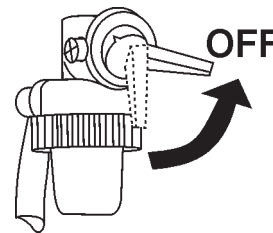

Figure 18. Engine Fuel Valve Lever (OFF Position)
- Place the engine **fuel valve lever** (Figure 18) to the **"OFF"** position.